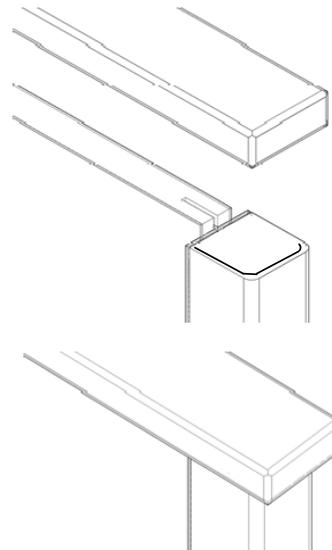

Figure 13
Attach Top caps over top of Panels and Posts with a bead of adhesive applied to underside of Top Cap. Ensure that Top Cap is fully seated onto top of Panels and Posts (figure 13)
- a. NOTE 1: Often Top Cap looks best with overhang over End Post (Figure 13).